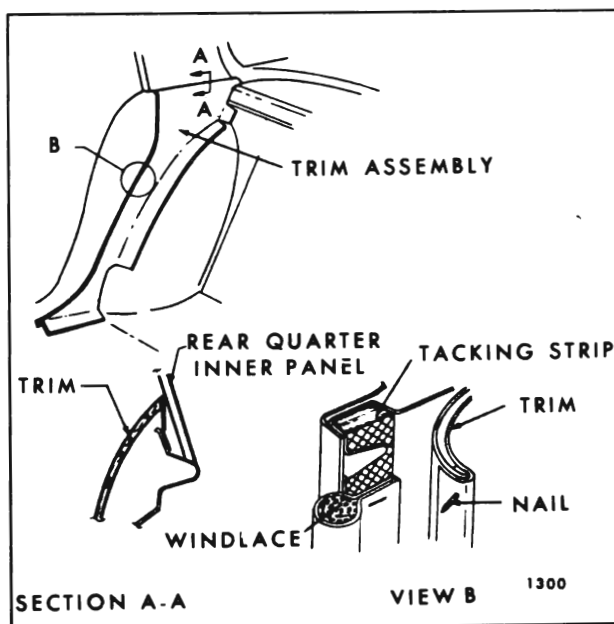

Fig. 14-32—Rear Quarter Lower Trim Assembly - "B & C" Body "39 and 69" Styles
- a. With tool J-6335 or other suitable flat-bladed tool, pry trim assembly retaining nails from tacking strip (Fig. 14-32).